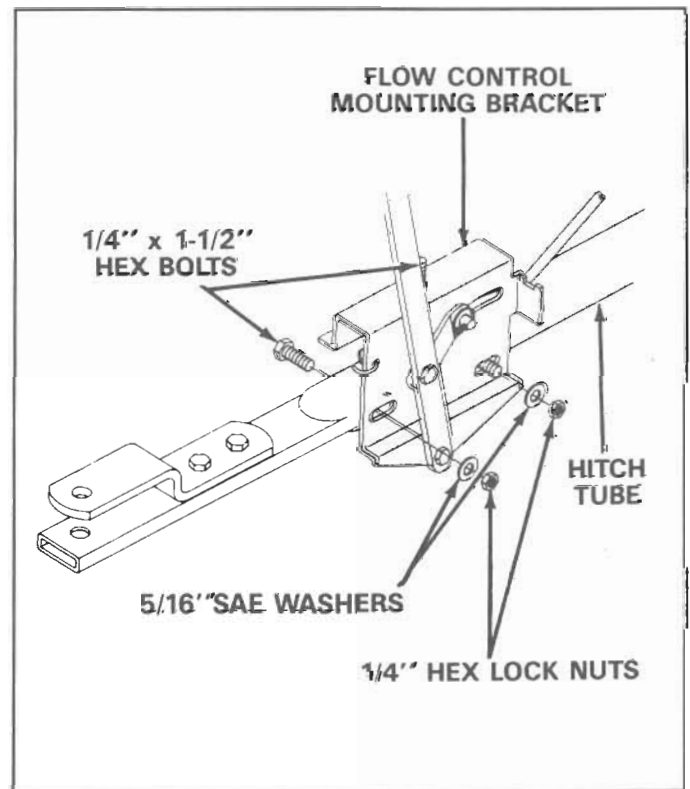

FIGURE 13
21. Assemble flow control mounting bracket to the hitch tube using two 1/4" x 1-1/2" hex bolts, two 5/16" SAE washers and two 1/4" hex lock nuts. See figure 13. **DO NOT TIGHTEN AT THIS TIME.**